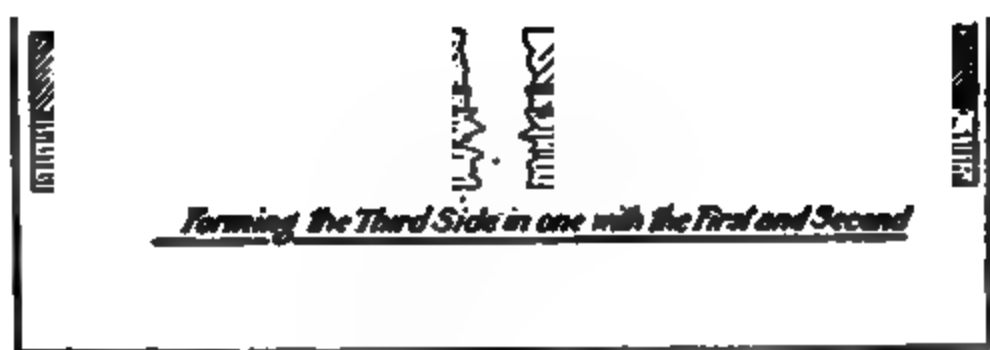

Fig. 50.—Reinforced concrete work.
with a rim  $1\frac{1}{2}$  in. high enclosing a 2 ft. 3 in. square. This is the mould. After greasing the inside, pour enough ballast into the tray to fill it about level with the top of the rim; empty out, and mix this with a proper quantity of sand and cement. Spread a  $\frac{3}{4}$ -inch layer of concrete over the bottom of the tray with a bricklayer's trowel—cost, 1s.—and lay on it a piece of wire-netting wide and long enough to cover the concrete and turn up three inches along three of the edges. Then fill the mould with concrete, smoothing off the top with a straight-edge (Fig. 50, *a*). Leave it for two days, and then stand the slab on edge in a damp corner to set thoroughly. Meanwhile a second slab is made in precisely the same way, and in turn is stood up to set.
The two slabs are then stood on edge in the mould, at right angles to it and parallel to one another, and fixed firmly in position. Proceed as before, twisting or tying the netting of the third side to that of the other two before covering it with concrete (Fig. 50, *b*).
*Pillars.*—Vertical members, such as pillars and struts, are easily formed in boxes, say, three inches square, with a reinforcement of  $\frac{1}{4}$ -in. iron rod near each corner (Fig. 50, *d*). Start by making a block of concrete in a hole in the ground as a base (Fig. 50, *e*). Let into this, as you make it, the ends of four rods, two inches apart. Then place round these a tall box made by nailing four planks together, tying the tops of the rods together with wood between them, so that they are just about the right distance apart all the way up. Drop the concrete carefully in at the top of the box. The fall alone will help to solidify it, but there should be some ramming with a stick.
Theoretically the horizontal rods should slope up a little at the ends, as shown in Fig. 50, *c*.